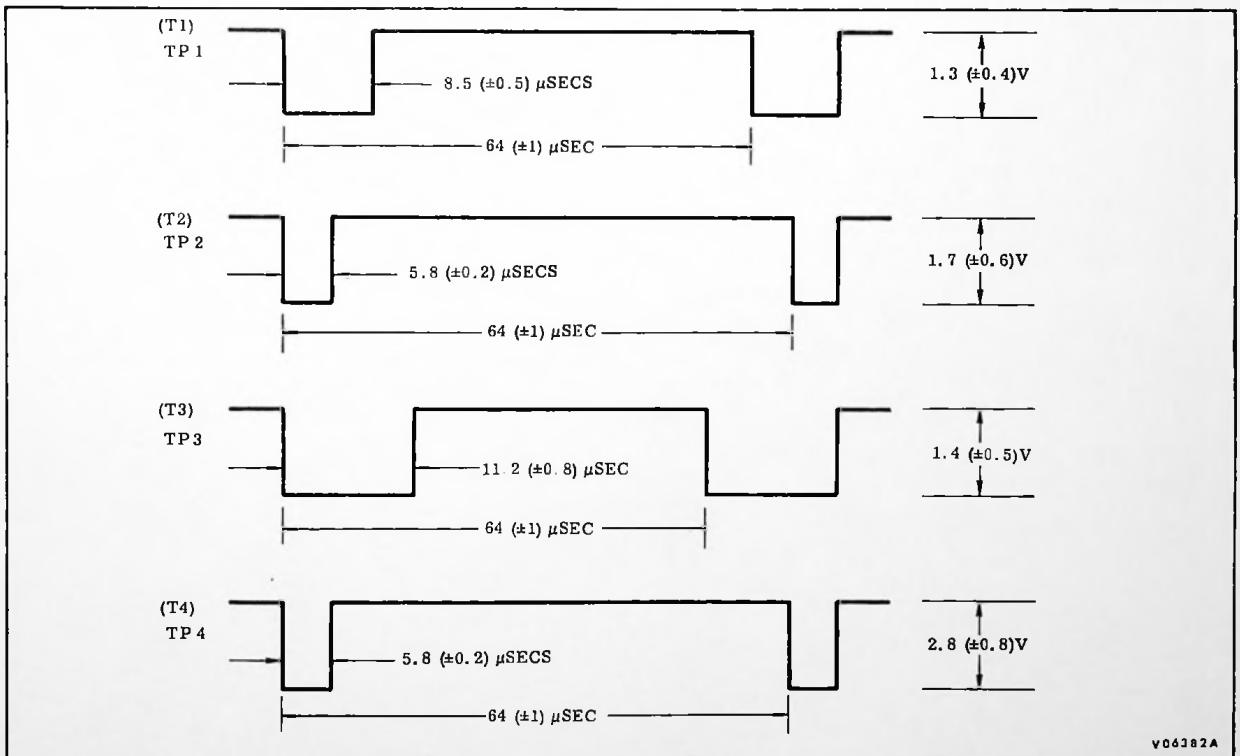

Figure 5.2-4. Timing Generator Outputs, T1, T2, T3, and T4
- b. Connect a 1:1 probe successively to test points TP1, TP2, TP3, and TP4, (board 7). The waveforms should resemble those of Figure 5.2-4.